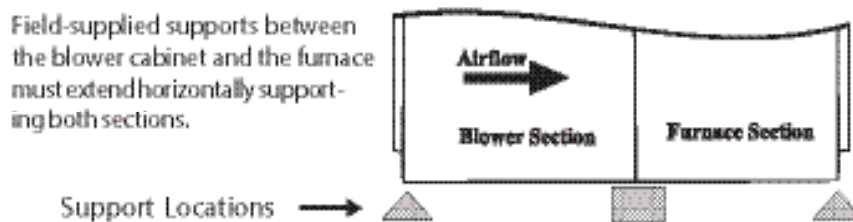

Figure 3. Support Locations
- Model SCE requires six mounting support locations—three on each side—as shown in Figure 3.